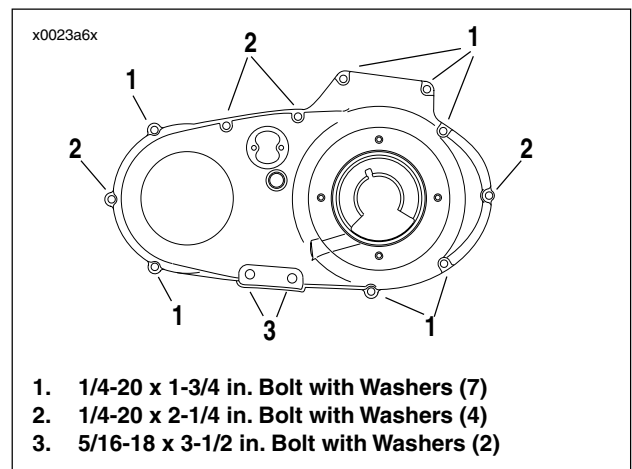

Figure 6-4. Install Primary Cover Bolts
3. See Figure 6-4. Install primary cover and gasket onto left crankcase half using mounting screws. Tighten screws to 100-120 **in-lbs** (11-14 Nm).